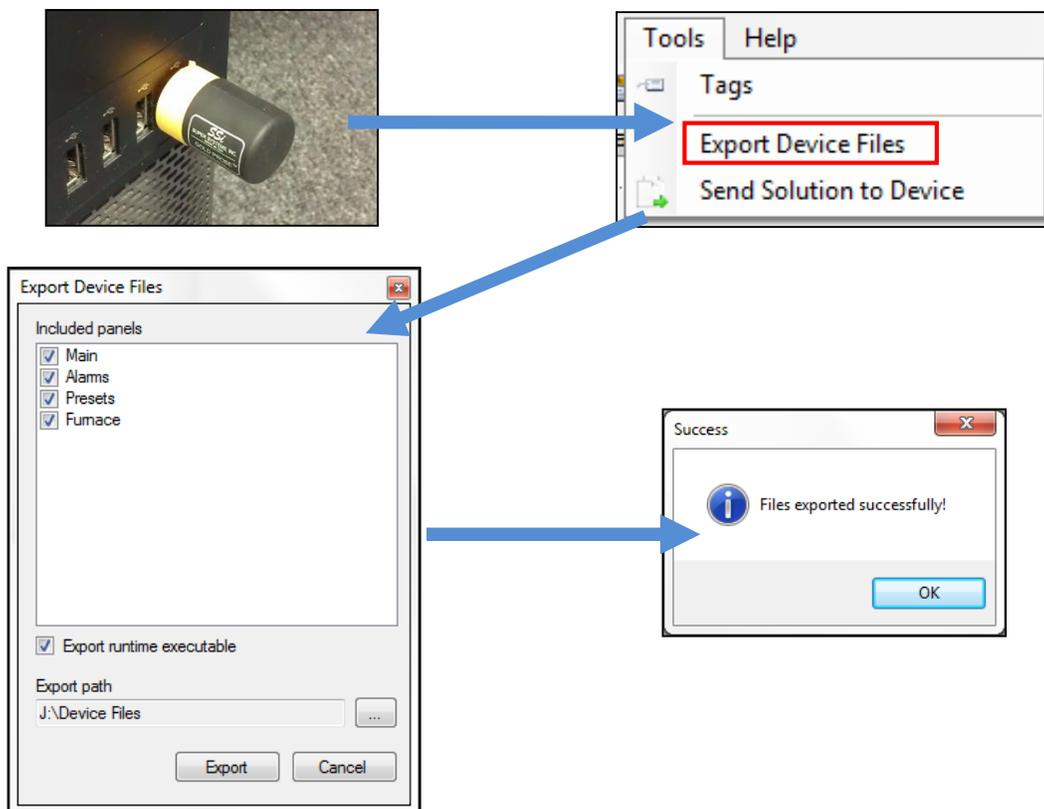

Figure 56 - Exporting Device Files
2. Using the **Tools → Export Device Files** option, export the device files to a USB drive or other storage medium. This process is depicted in Figure 56.